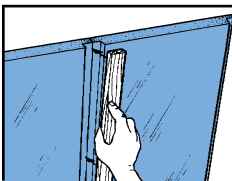

Figure 2
- Place a 1" x 3" furring strip into the slot between two adjoining boards (Figure 2).